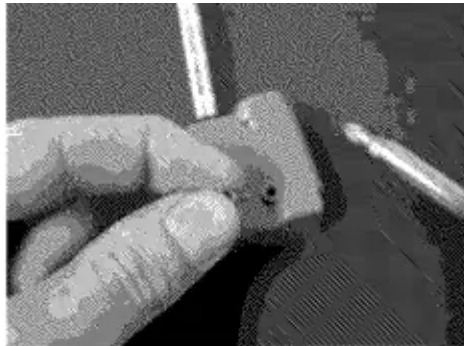

Fig 11
- Fig 11 2. Separate the top from the base of the control box. Remove the 1/2 AA Lithium battery and replace with a new battery of identical type, making sure that battery polarity is correct (fig 12).